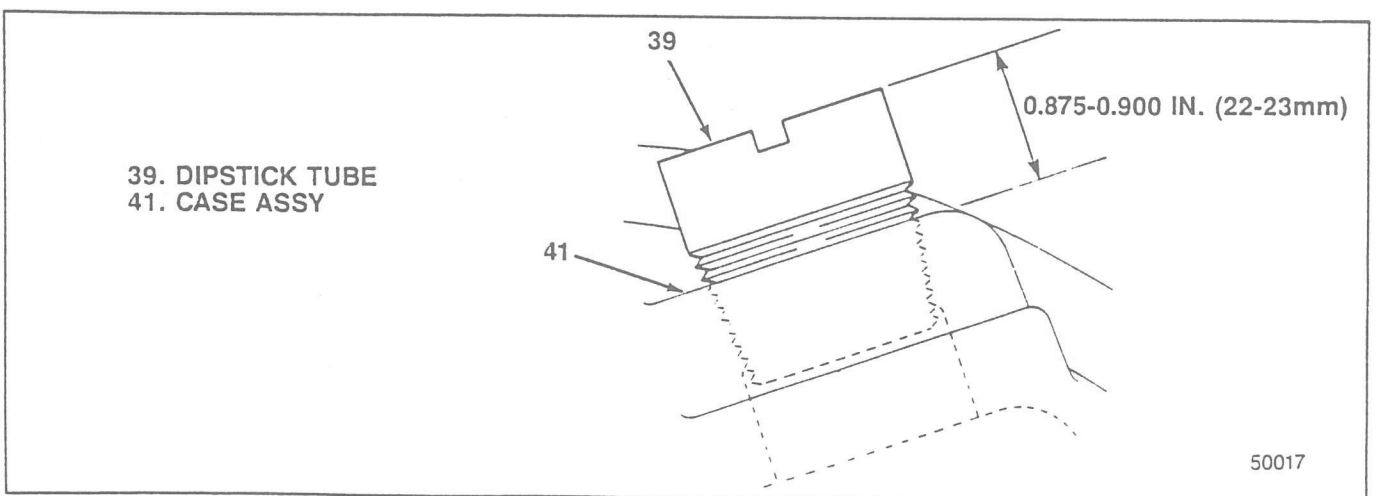

Figure 5-13. Dipstick Tube Installation
1. If replaced, thread new dipstick tube (39) into case assembly (41) to dimension shown in figure 5-13.
2. If replaced, install new identification tag (38) with screws (37).
3. Install breather (36).
4. Install o-ring (35) in groove on suction tube assembly (34). Position suction tube assembly in case assembly (41), inserting end with o-ring in case opening.
5. Position oil baffle (33) in case assembly (41). Align bolt holes in oil baffle, suction tube assembly (34) and case. Apply Loctite 242 (blue) to threads of two bolts (32). Install bolts securing suction tube assembly and oil baffle. Torque bolts to 4-6 lb-ft (5-7 Nm).